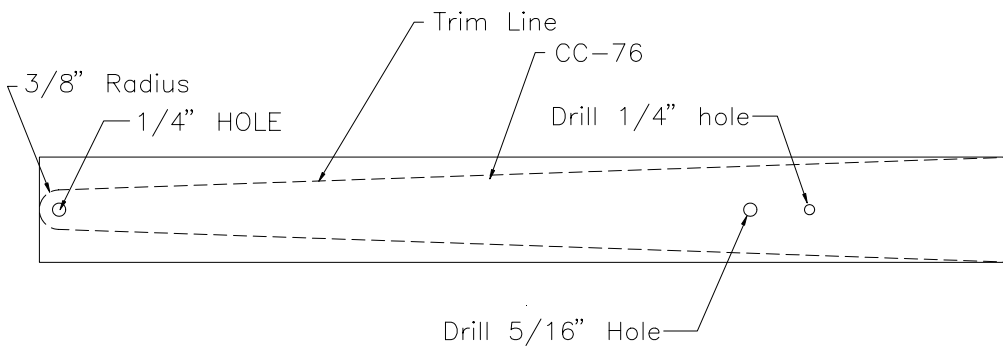

Figure 15.7.1
- 1) Layout and drill a 1/4" in the CC-76 mixer arm. Trim the mixer arm as per Figure 15.7.1.